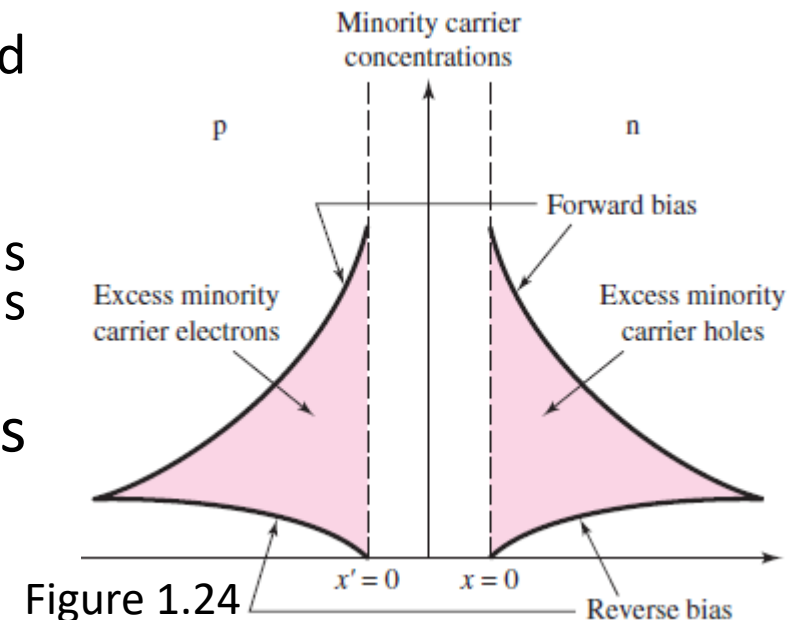

Figure 1.24
- Figure 1.24 shows the **minority carrier concentrations** for: